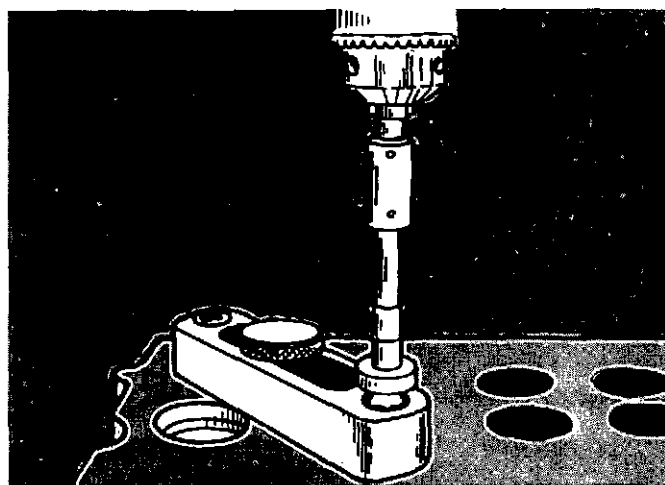

Fig. 2-20. Cut The Water Hole.
8. Engage the drill adapter with the counterbore cutter, Fig. 2-20.